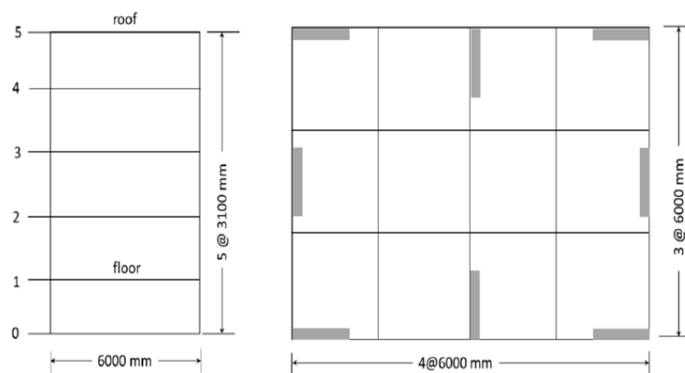

Fig: 2
- 5b) State IS 3370 Code provisions for water tanks. Write design procedure for water tank. (8) CO5 L6
- 5c) Calculate flexural strength of shear wall for a Five storey (G+4) apartment building as shown in figure 2. The unfactored axial loads due to D.L. & L.L. are 1980 KN & 648 KN respectively. The shear & B.M due to earthquake are 423 KN & 5276 KN-m respectively. The materials are M25 concrete & Fe 415 Steel.
(8) CO5 L6